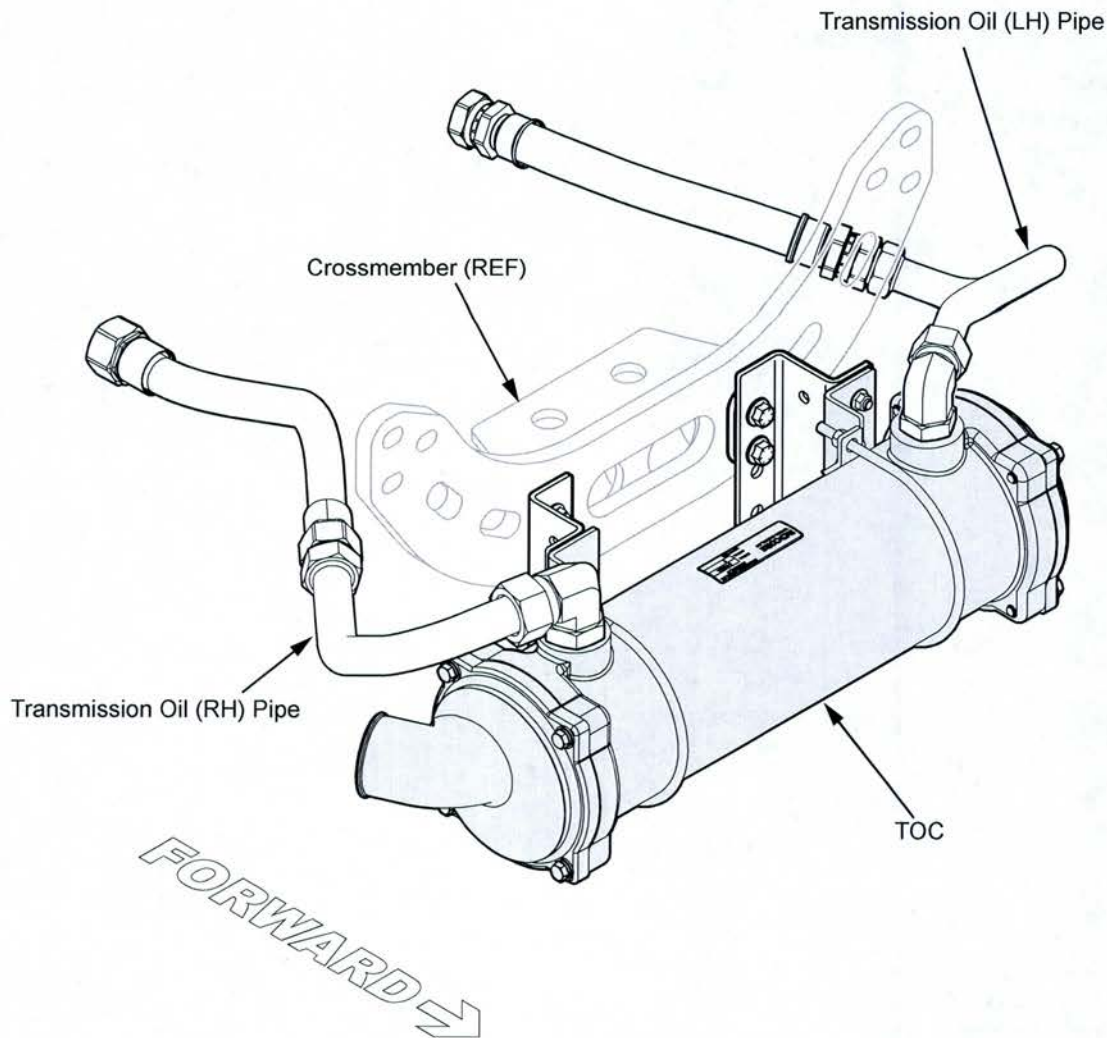
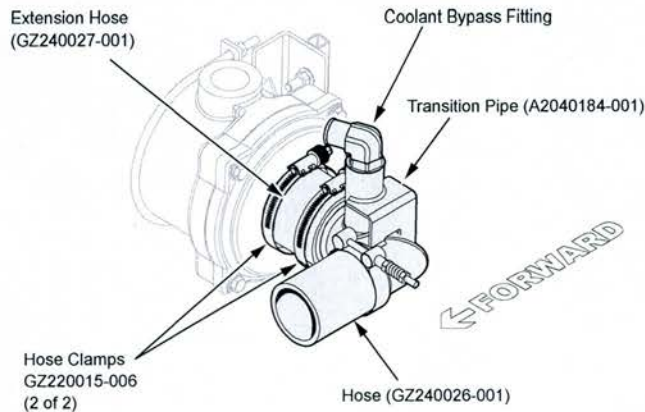
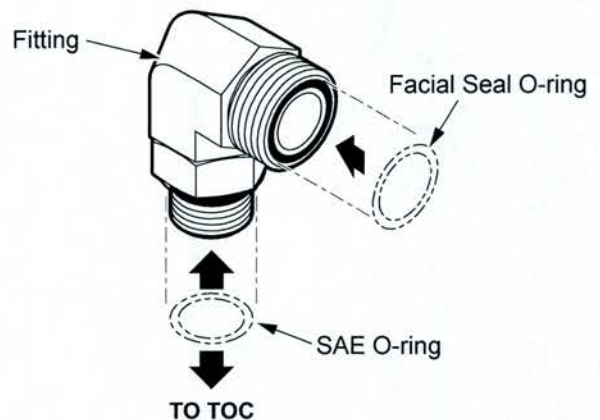

Figure 8
Figure 9
Figure 10
004) to each of the fittings leading to transmission oil pipes. Install the fittings into the new TOC; then, connect the TOC pipes (RH/LH) to the fittings. Orient the fittings as noted during removal in step 8. Tighten to 150 ft-lb (203 N-m) of torque (see Figure 8 and Figure 10).
16. On the LH side of the TOC, install the extension hose (GZ240027-001) and 2 hose clamps (GZ220015-006) (see Figure 9).
17. On the LH side of the TOC, install the transition pipe (A2040184-001) onto the extension hose and tighten the 2 hose clamps to 60 In-lb (7 N-m) of torque (see Figure 9).
18. On the coolant bypass fitting that was set aside in step 8, install 1 SAE O-ring (GZ250017-001) to the fittings leading to the TOC and 1 facial seal O-ring (GZ250017-002) to the fittings leading to the coolant bypass hose. Install the fitting onto the transition pipe; then, connect the coolant bypass hose to the fitting. Tighten to 85 ft-lb (115 N-m) of torque (see Figure 9 and Figure 10).